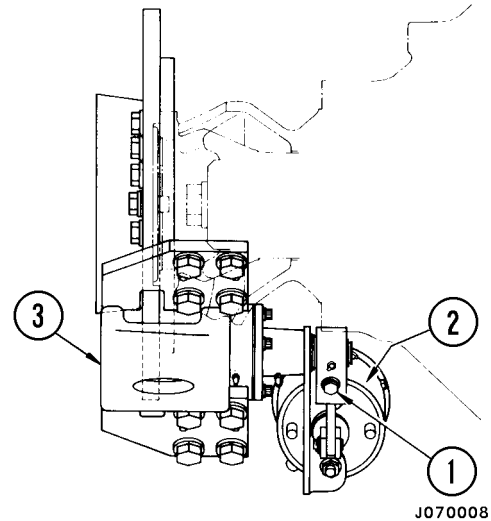
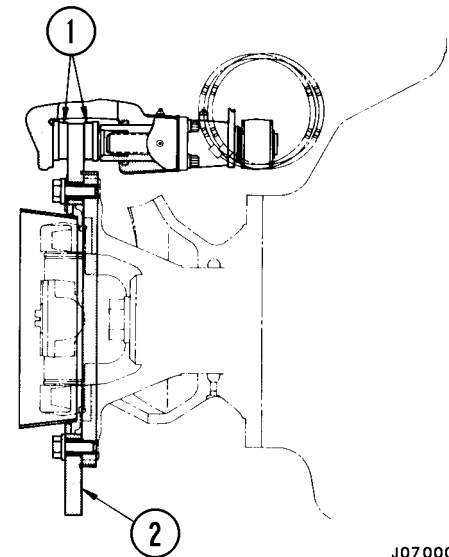

FIGURE 4-16. PARKING BRAKE ADJUSTMENT
FIGURE 4-17. PARKING BRAKE ADJUSTMENT
1. Turn capscrew (1, Figure 4-16) clockwise and bring both pads (1, Figure 4-17) into contact with disc (2).
3. Turn capscrew (1, Figure 4-16) back from this position counterclockwise 360° ± 15° and measure clearance of caliper pad with feeler gauge (1, Figure 4-19).